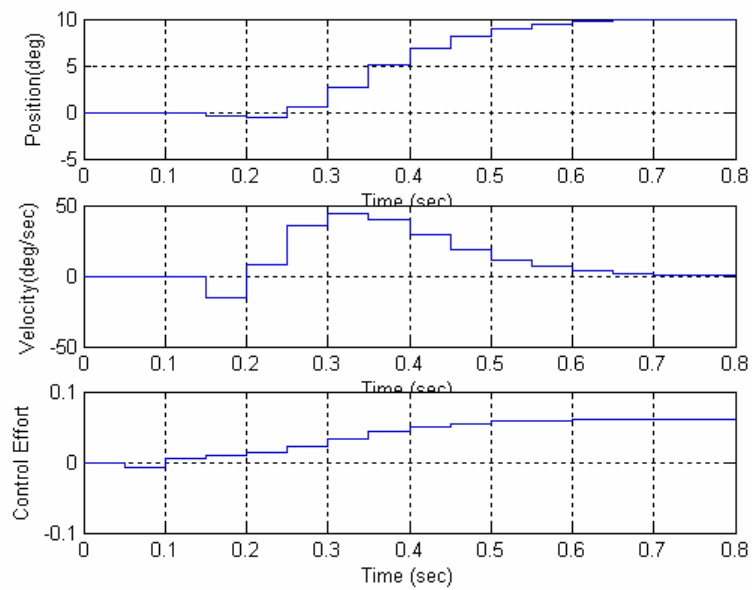

Figure 8. Problem 5, results for Configuration A.
b) For the torsional system we have been using, assume the position of the cart is the output and is available to the observer, the feedback poles are all at 0.4, and the observer poles are all at 0.2. We will be looking at a 10 degree step input assuming the system is at rest. Utilizing the Simulink models **DT_TF1_A.mdl** and **DT-TF1_B.mdl** show that when you utilize the observer-controller transfer function (with the prediction full order observer) you get the results displayed in Figures 8 and 9.